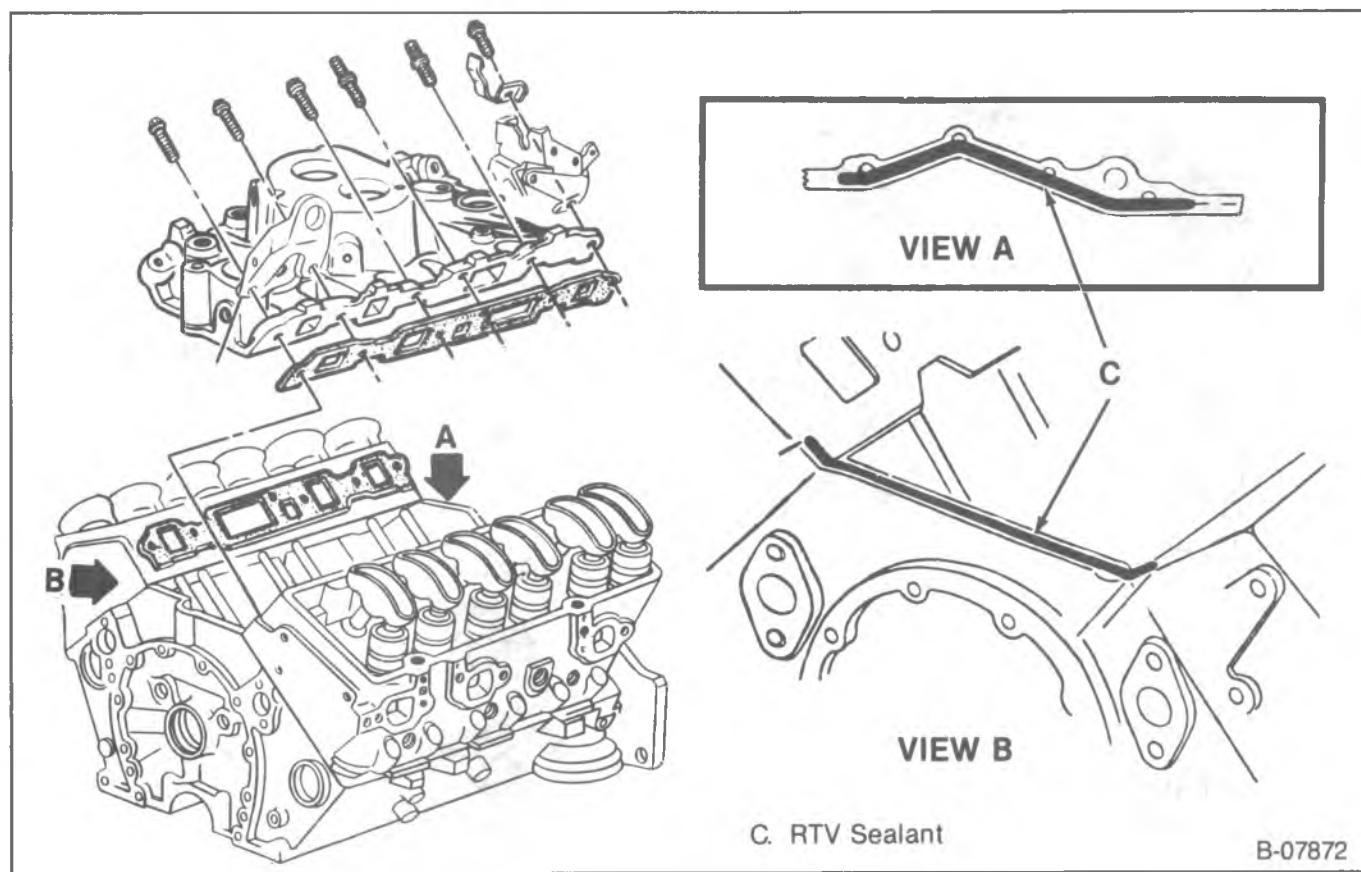

Figure 40—Intake Manifold Installation
Install or Connect (Figures 40 and 41)
- RTV to the front and rear sealing surfaces on the block. Apply a 5 mm ($\frac{3}{16}$ -inch) bead of RTV (GM Part No. 1052366 or equivalent) to the front and rear of the block as shown in figure 40. Extend the bead 13 mm (1/2-inch) up each cylinder head to seal and retain the gaskets.